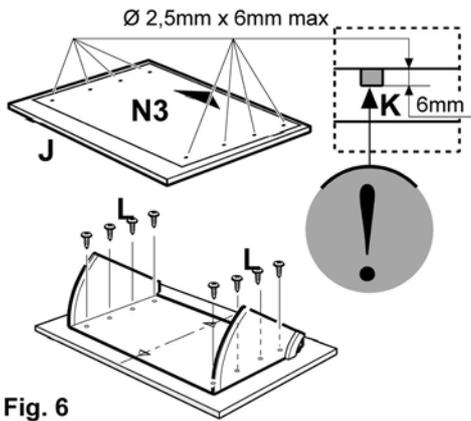

Fig. 6
- b. Put perforation diagram N3 on the REAR of aesthetic panel J (the arrow on the diagram turned upward towards the UPPER EDGE of the aesthetic panel). Fig. 6
- c. Make BLIND HOLES K as indicated. Fig. 6
- d. Put the steam collector over the aesthetic panel and fix it with 8 screws L. Fig. 6
- e. Remount the door on the hood, first on upper guides M1, then on the lower M2. Fig. 6